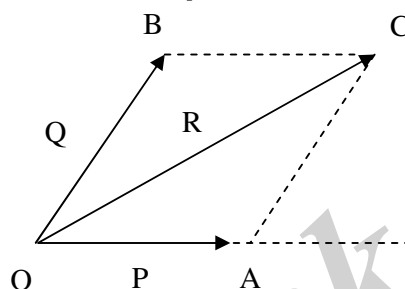

Figure 1
b) Two forces P and Q are acting at a point O as shown in Figure 1. The force  $P=250\text{N}$  and force  $Q=200\text{N}$ . If the resultant is equal to  $400\text{N}$  then find the value of the angles  $\alpha$  (BOA),  $\beta$  (BOC), and  $\gamma$  (COA)